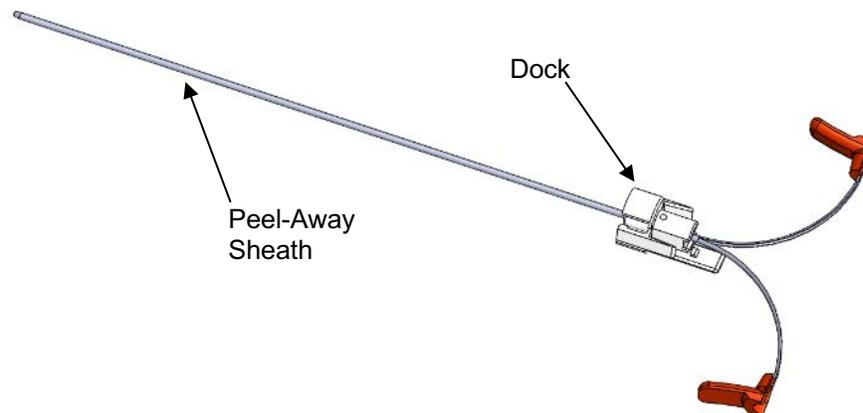

Figure 194: Peel-Away Sheath Inserted into Dock
11. Insert the Lancet into the Peel-Away Sheath until the pointed end protrudes approximately one (1) to eight (8) millimeters. A slight resistance should be felt. If the Depth Stop interferes with the Sheath before the Lancet can be fully inserted, peel the sheath away further until the Lancet can be fully inserted.
14. Remove a new Peel-Away Sheath from the Accessory Kit and separate the hub and peel away approximately one (1) inch of the Sheath. Place the Peel-Away Sheath through the Dock.
15. Insert the peeled Sheath sides into the grooves of the Dock. **See Figure 194.**